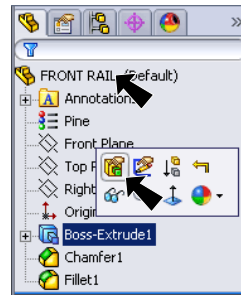

Fig. 16
Step 1. Click **Boss-Extrude1** in the Feature Manager and click **Edit Feature**  in the menu, **Fig. 16**.